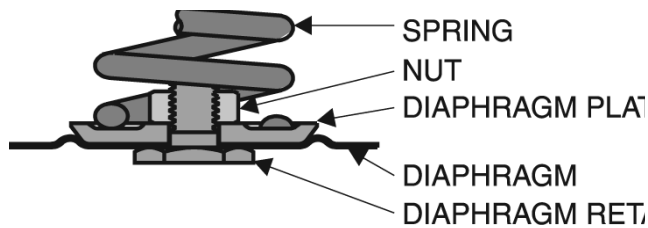

Figure 14 - Diaphragm Assembly for the Flowgrid® Series 20 & 20S Pilot.
1. Diaphragm Assembly: Install the Pilot Diaphragm with convex side toward Diaphragm Plate and Main Spring (refer to Figure 14). Tighten nut on the Diaphragm Retainer to approximately 5 to 6 ft-lbs torque.